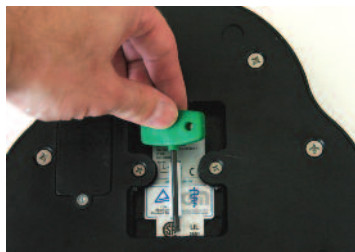

Fig. 3.1.1b
3. Remove the hexdriver from its holder on the underside of the pedal. Lift up on the long end, and working the long end up and down, pull the hexdriver from its holder, Fig. 3.1.1b.